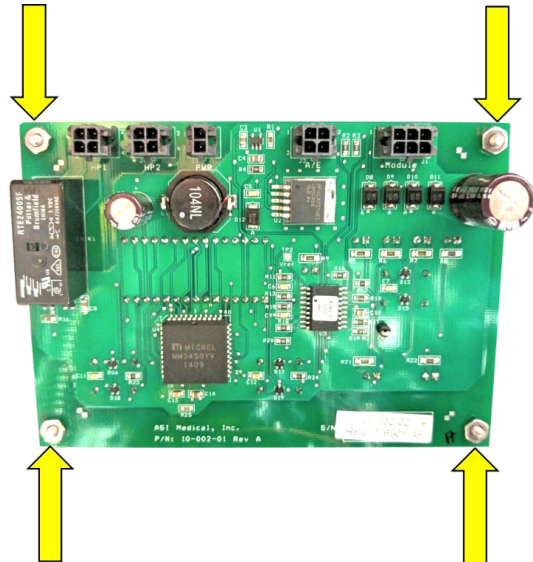

Fig. A2
A4. Remove (4) nuts using a 3/16" Nut Driver on Control Board and set aside. **(Fig. A2)**